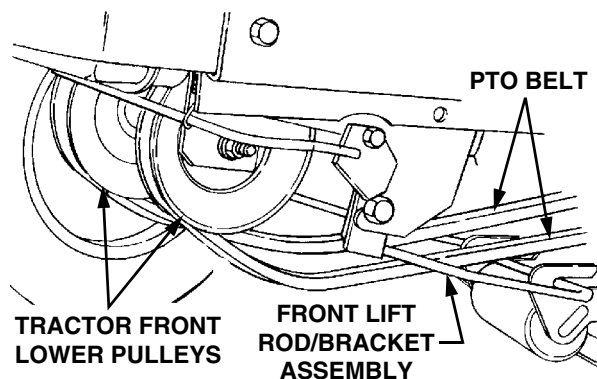

Figure 36
12. Twist the two sides of the PTO belt 1/4 turn inward to engage the narrow sides of the belt into the grooves of the two tractor front-lower pulleys (See Figure 36).